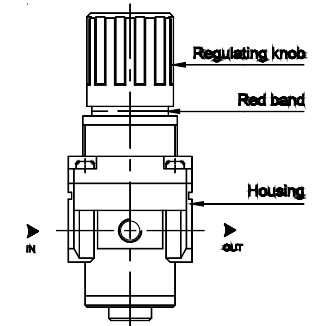

fig. 1
1. To set the Regulator , pull the regulating knob till " Red band " ( Indicator ring ) is visible ( refer figure 1).